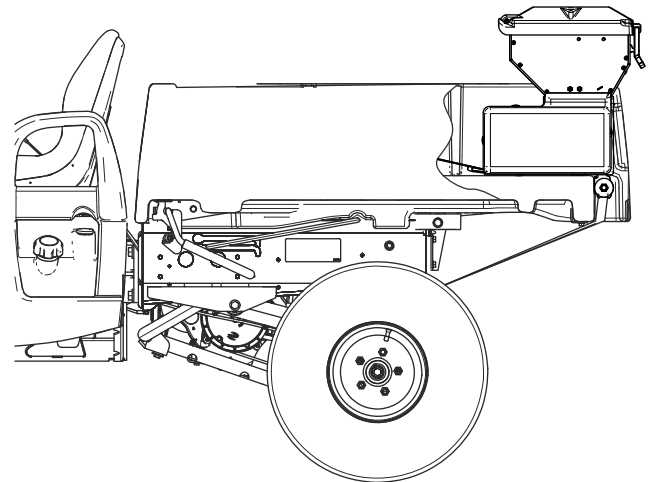

Figure 26
2. Slide the spreader onto the UTV bed until the bed stops contact the bed (Figure 26).